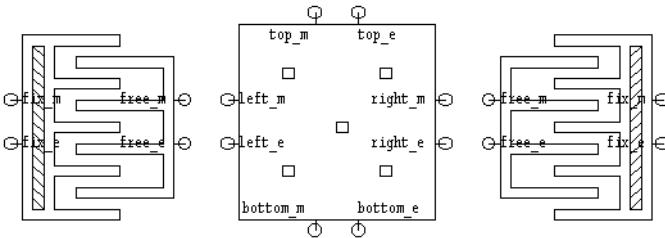

Figure 2: Aligning the comb-drives to the plate
- Move the comb-drives so that their connection pins, represented by circles, line up with the pins on the **plate4** instance (Figure 2) (see Pins on page 180 of the *S-Edit User Guide and Reference*).